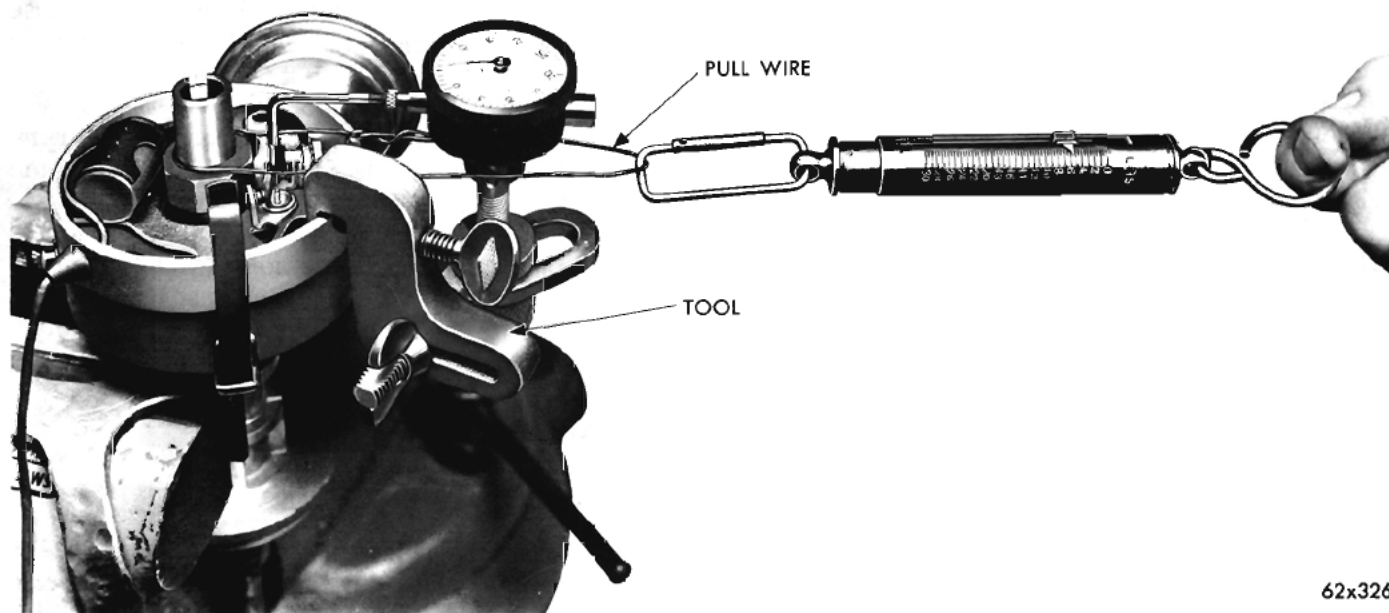

Fig. 1—Shaft and Bushing Wear Test
- (1) Remove the distributor rotor.
- (2) Disconnect the primary lead wire at the distributor terminal. DO NOT LOOSEN the inner nut that holds the movable contact arm tension spring to the terminal post.
- (3) Clamp the ribbed section of the distributor housing lightly in a vise equipped with soft jaws and attach the dial indicator to the body of the distributor with the indicator plunger arm resting against the movable contact arm at the rubbing block and with the rubbing block of the contact arm on the highest point of the cam lobe (Fig. 1).